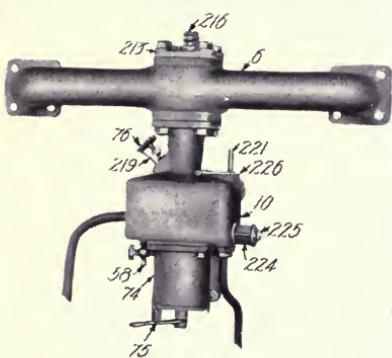

Fig. 43.
**48b. Carburetor, throttle valve, air valve, hot-air intake, pipe connections, etc. (See Fig. 43 and Fig. 44.)**